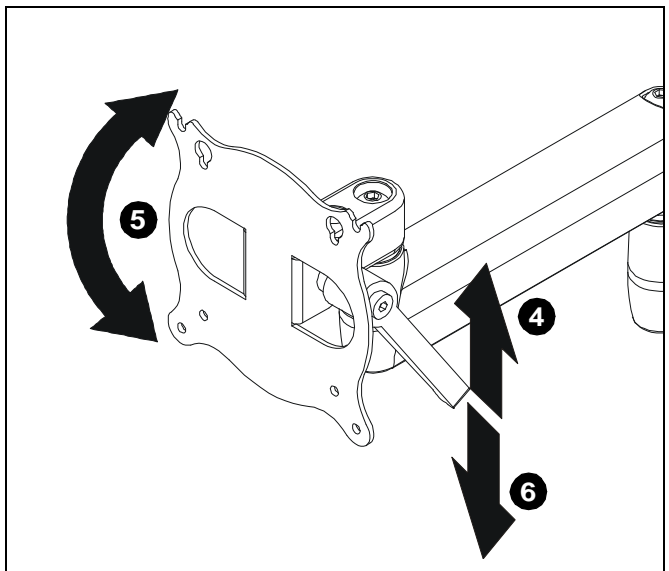

Figure 8
4. Lift handle up until pitch can be adjusted easily. (See Figure 8)
5. Adjust pitch to desired position. (See Figure 8)
6. Push handle down until faceplate is locked at desired pitch position. (See Figure 8)